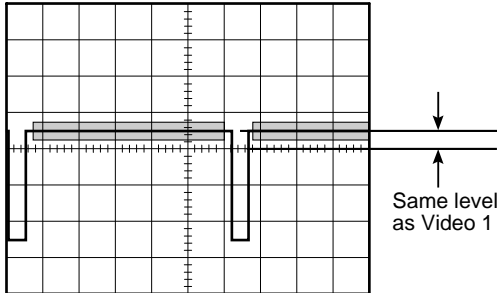

Fig. 5-7
- Adjust VR4 so that the Pedestal signal level becomes same as that of the Video 1 as shown in Fig. 5-7.